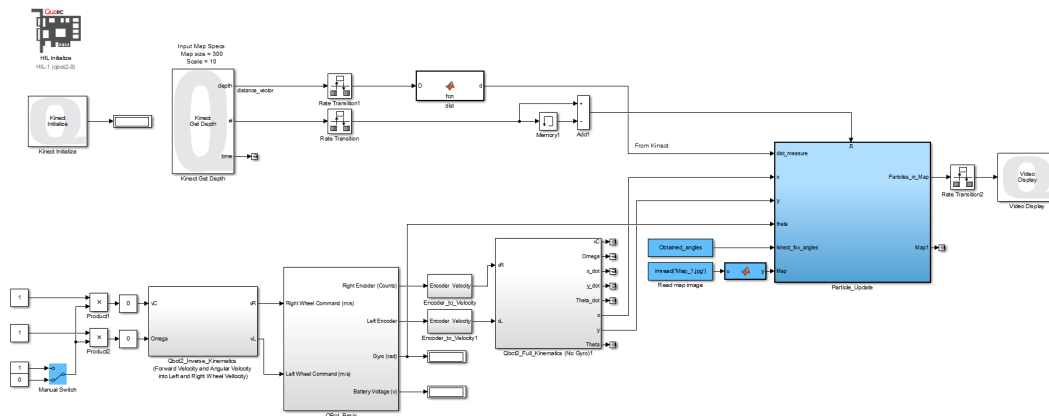

Figure 2.1: Snapshot of the controller model “QBot 2_Particle_Filtering.mdl”
In this exercise, you will become familiar with particle filtering, an iterative algorithm used for localization. The controller model for this exercise, shown in Figure 2.1, is called “QBot 2_Particle_Filtering.mdl”.
1. Wait 5 seconds until the QBot 2 has fully initialized, and then enable the movement of the robot using the manual switch shown in Figure 2.1. This is an important step to insure that the sensor has fully initialized.